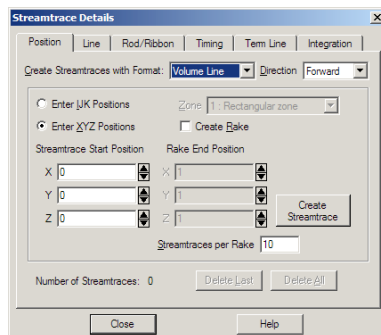

Figure 12-1. The Streamtrace Placement dialog.
1. From the Plot menu, choose Streamtraces. If you have not yet assigned vector components for the current plot type, the Vector Variables dialog appears for you to assign them. Otherwise, the Position page of the Streamtrace Details dialog appears, as shown in Figure 12-1.
1. From the Plot menu, choose Streamtraces. If you have not yet assigned vector components for the 3D Cartesian plot type, the Vector Variables dialog appears for you to assign vector components. Otherwise, the Position page of the Streamtrace Details dialog appears, as shown in Figure 12-1.